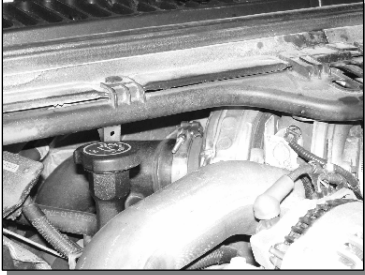

Figure 3
5. Remove the down pipe from the turbo by removing the band clamp using an 11mm socket. Retain the band clamp for the installation of the new down pipe. **See Figure 3.**